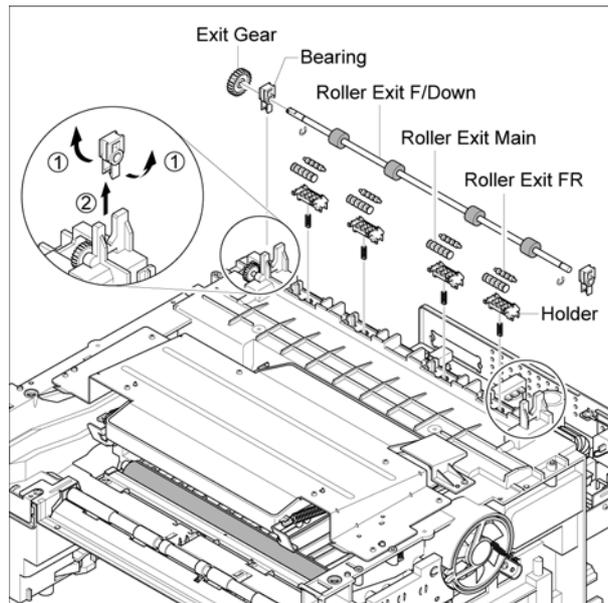

Figure 1
- Use a screwdriver to remove the Exit Gear and Bearing, then remove the shaft and rollers, Figure 1.